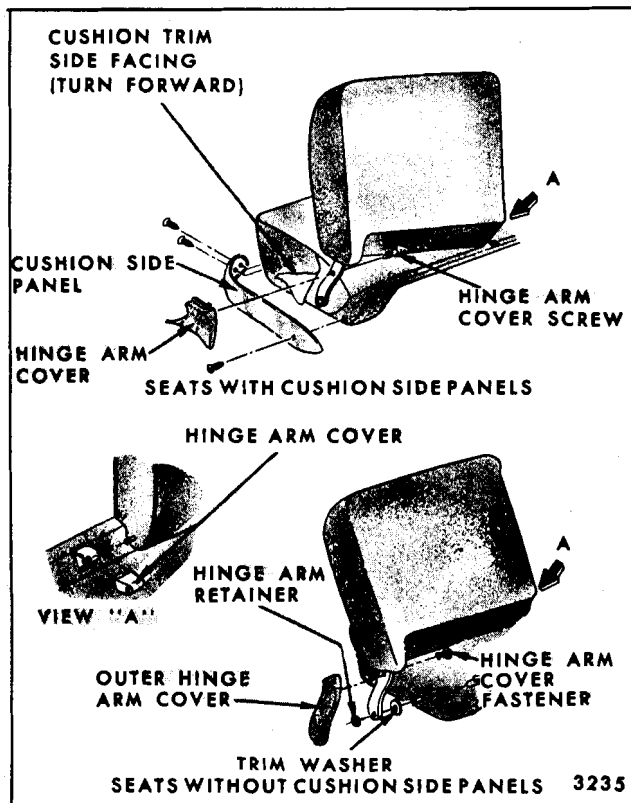
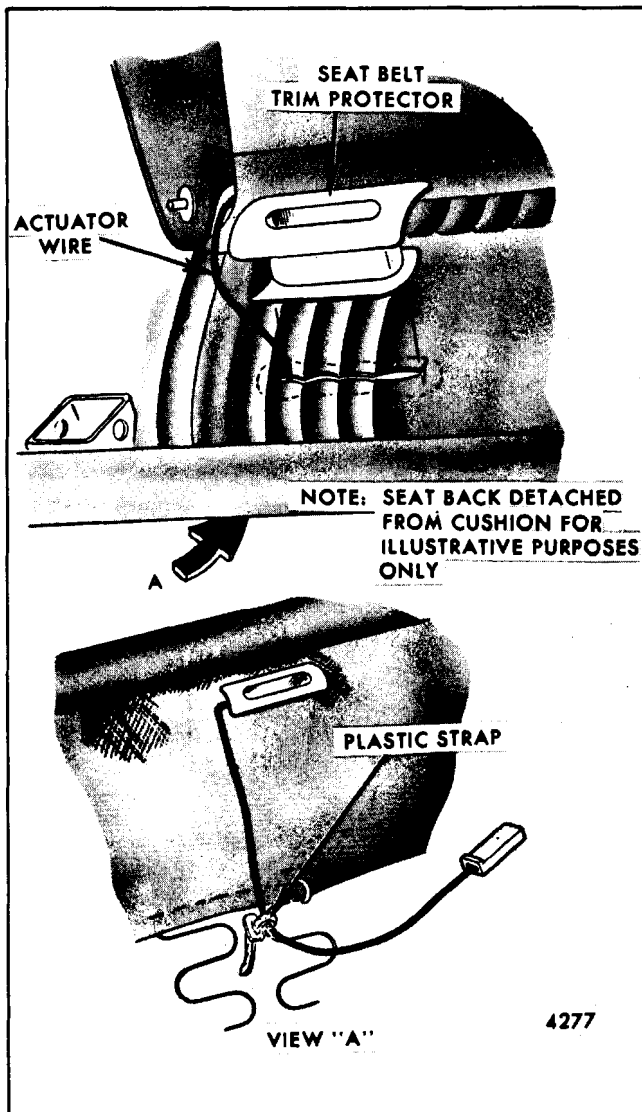

Fig. 14-26-Seat Back Attachment - Two-Door Style Conventional Seat
Fig. 14-28-Electric Seat Back Lock Wire Route Through Seat Cushion-Two-Door Style Full Width Conventional Seat
1. On seat with seat cushion side panel, remove side panel and detach seat cushion trim sufficiently to expose outer hinge pin and retainer (Fig. 14-26 or 14-27).
2. On seats with outer hinge arm cover or inner hinge pin cover, remove screw or detach fastener securing cover and remove cover (Fig. 14-26 or 14-27).
3. Using a flat-bladed tool carefully remove retainer, securing seat back outer arm to hinge pin (Fig. 14-26 or 14-27).
NOTE: On seats equipped with electric seat back locks, lay seat back on seat cushion and carefully disengage seat belt webbing plastic protector (see Fig. 14-26 or 14-28) from seat cushion. From under front of seat, disconnect lock actuator feed wire from relay jumper wire; from under rear of seat detach feed wire clip from strap securing wire to seat spring (see Fig. 14-28); then, carefully pull feed wire up through seat cushion and remove seat back from body.